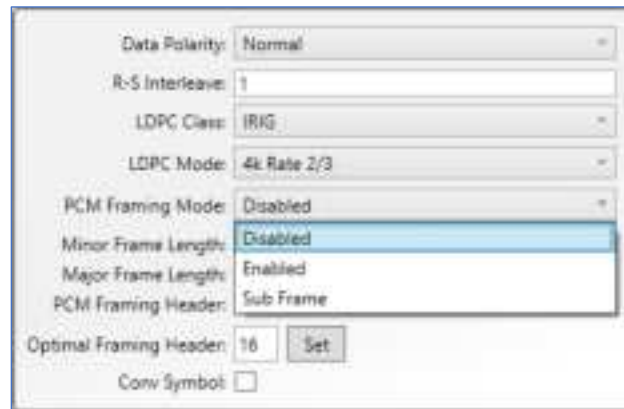

Figure 170: Encoder Hamburger Menu, PCM Framing Mode Drop Down Menu
- PCM Framing Mode – The RA can emulate basic PCM encoder frame formatting as described in IRIG 106 Chapter 4. This capability is useful for system level measurement, such as verifying decomm lock. Valid options are Disabled, Enabled, and Sub Frame, as shown in Figure 170.